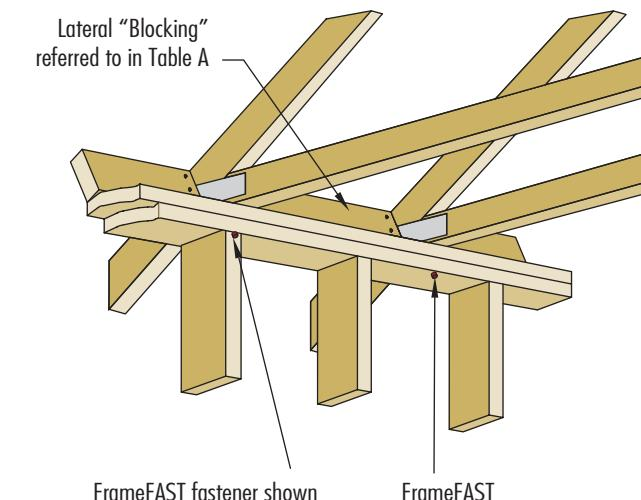

Figure 1c
- For shear parallel to wall with blocking, refer to Figure 1c.